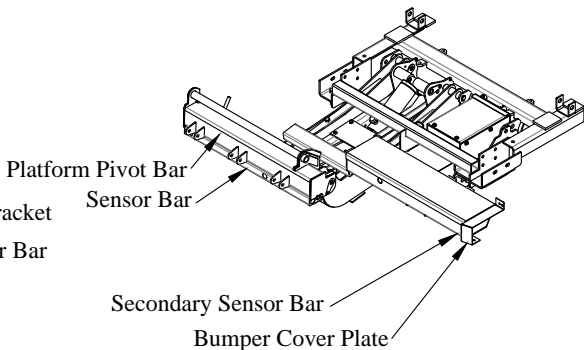

Figure 4: Sensor Bar Kit.
1. **Bolt** sensor bar to bottom of platform pivot bar using provided 5/16" bolts, washers, lock washers, and nuts (Figure 4).
Note: Aluminum spacers are used to shim secondary sensor cover flush with bumper cover plate (Figure 4).
6. **Bolt** the secondary sensor bar to the passenger bumper cover plate with provided 3/8" bolts, washers, lock washers, and nuts (Figure 4). **Drill** holes in bumper cover plate if needed.